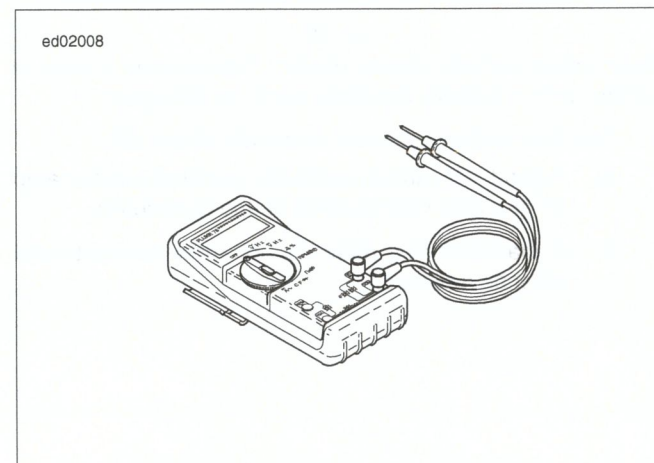

Figure 1-12. Digital Multimeter (Fluke 78)
- See Figure 1-12. Connect DIGITAL MULTIMETER (FLUKE 78) (Part No. HD-39978) to wiring harness between the suspect connections. When diagnosing ECM connections, use BREAKOUT BOX (Part No. HD-50390-1), ECM CABLE (Part No. HD-50390-4) and ECM OVERLAY (Part No. HD-50390-4-P) to simplify the procedure. See 1.3 DIAGNOSTIC TOOLS.